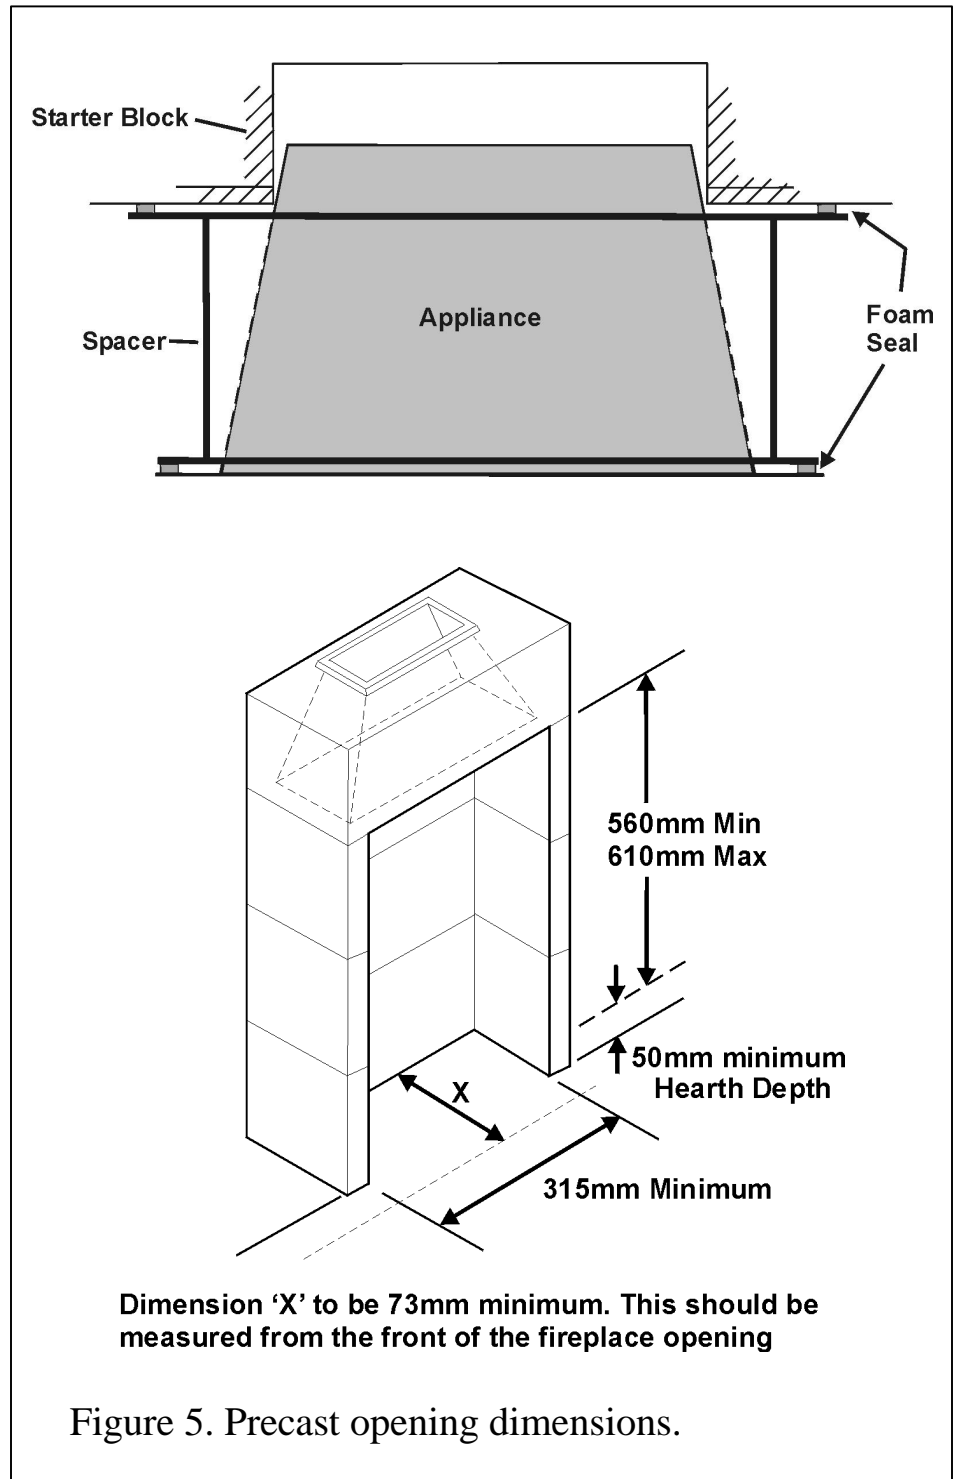

Figure 5. Precast opening dimensions.
2.2.1 A precast concrete or clay flue block system conforming to BS1289 or BS EN 1806 with dimensions as in figure 5. The kit is suitable for installations conforming to older versions of BS1289 as well as the current edition. The flue blocks must have a minimum width not less than 73mm and a cross-sectional area not less than 13,000mm². Older editions of BS1289 required a cross-sectional area of 13,000mm². The current revision of the standard requires 16,500mm². This kit is suitable in both cases. The distance from the back face of the flue starter blocks to the extreme front face of the fireplace including all surfacing must be no less than that shown in figure 6. The distance